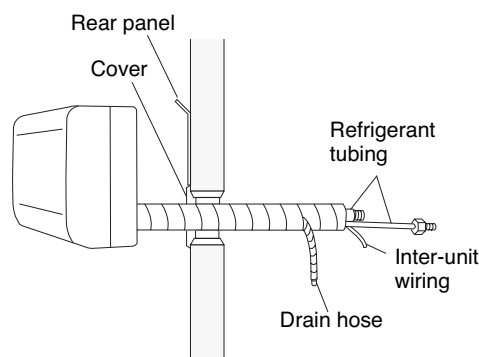

Fig. 35
- (1) Shape the refrigerant tubing so that it can easily go into the wall hole. (Fig. 35)